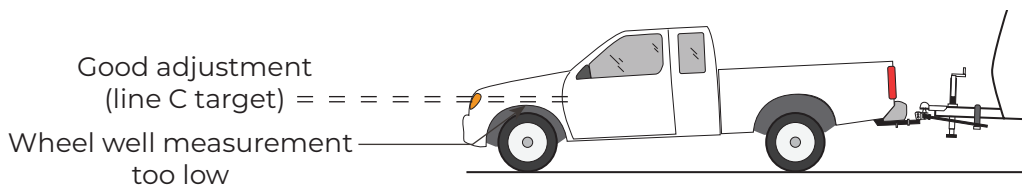

Figure 25 - Over-adjustment
**Over adjustment** occurs when there is too much weight being transferred to the front axle of the tow vehicle. See Figure 25.